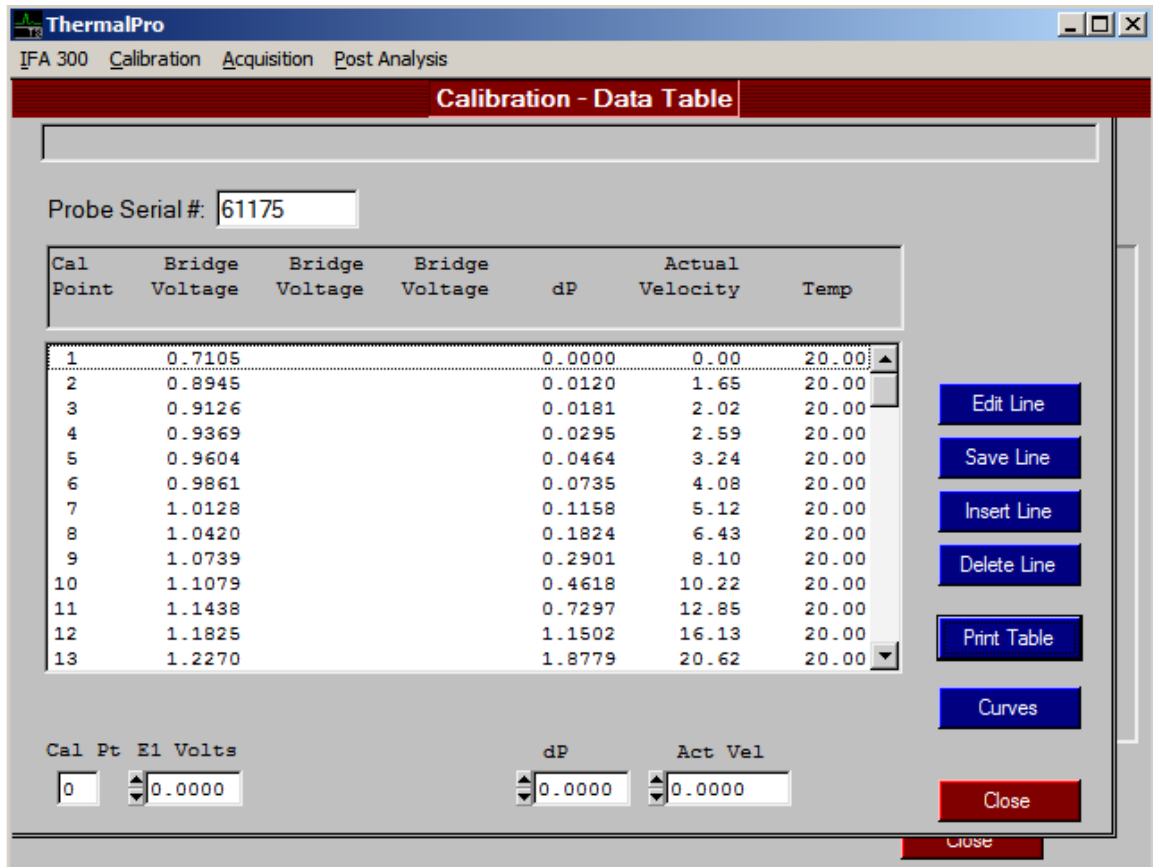

Figure 7-3
- f. Click on **Next Screen**. The Calibration-Data Table screen appears (Figure 7-3). Go to Step 11 to continue with the calibration process.
- g. Click on **Next Screen**. The Calibration-Data Table screen appears (Figure 7-3). Go to step 11 to continue with the calibration process.
- e. The Calibration Data Table screen appears (Figure 7-3).